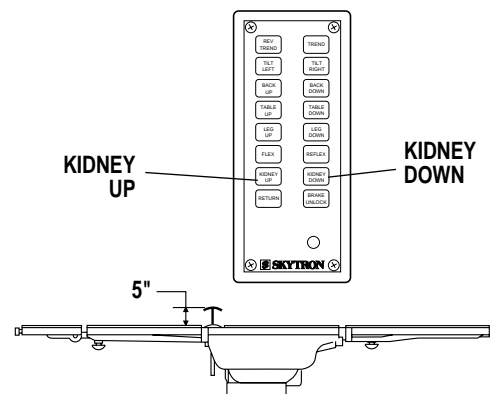

**Figure 3-10. Flex/Reflex Positioning**
**h. Flex Positioning.** To place the table top in a flex position from horizontal, press the FLEX button (figure 3-10). To return the table top to a horizontal position or into a reflex position, press the RETURN or REFLEX button.